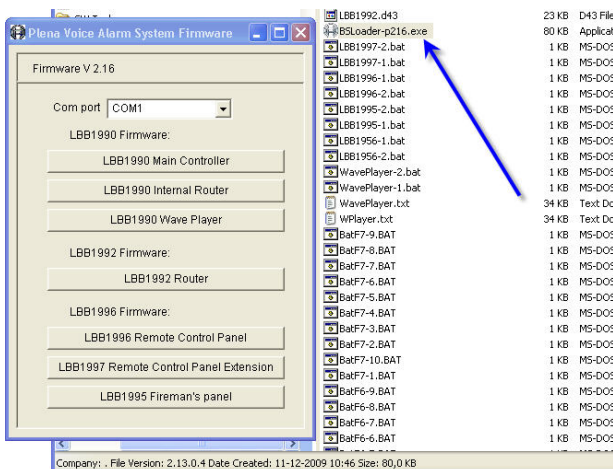

Figure 5: Firmware application
- 3) The firmware application (figure 5) will be launched